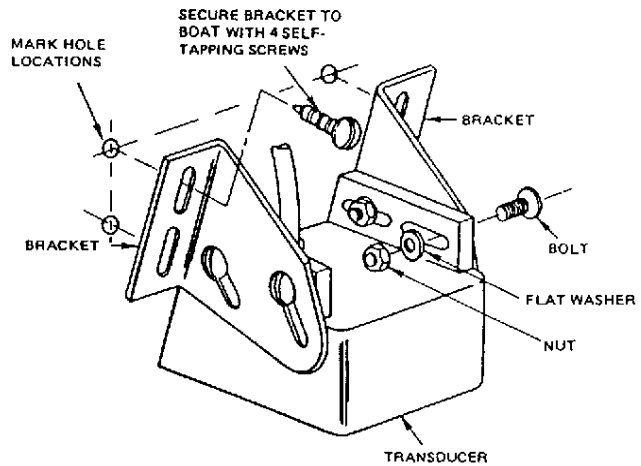

Figure 2-6. Transom Mounting Detail
1. Assemble the transducer to the two mounting brackets as illustrated in Figure 2-6. Tighten the screws sufficiently to hold the assembly together, yet loose enough to allow adjusting the transducer position.
3. Using the slotted holes in the transom mounting bracket as a guide, mark the transom where the mounting screws will be located. See Figure 2-6.